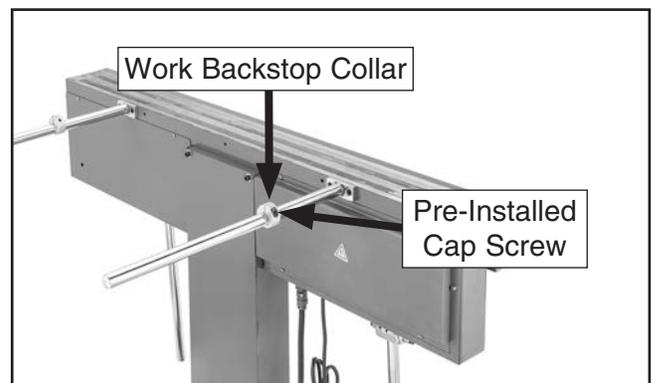

Figure 16. Collar installed on backstop bar.
3. Slide a backstop collar onto each backstop bar and secure pre-installed cap screw (see **Figure 16**).